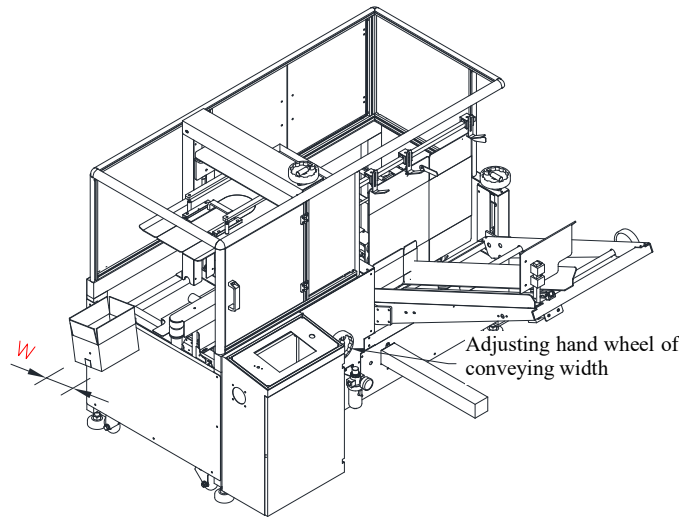

Figure 2
- 2) Rotate the belt width adjusting hand wheel (the belt width narrows down when rotating clockwise, and widens up when rotating anticlockwise) to make the discharging belt width W and the carton width W as shown in Figure 2: